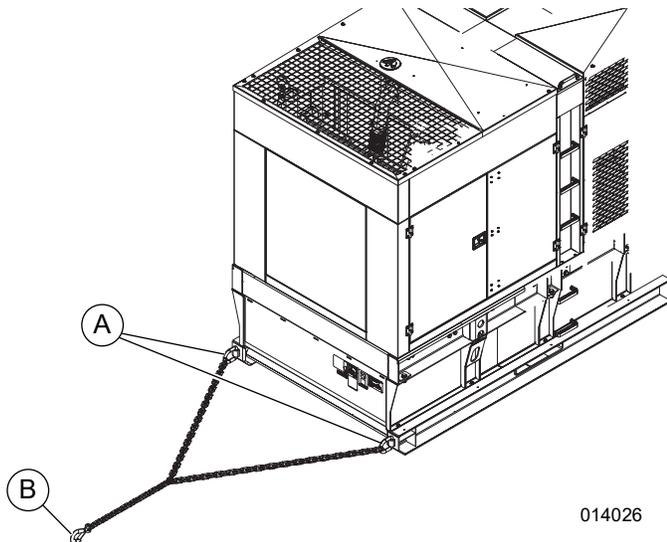

Figure 3-21. Dragging the Unit
1. See Figure 3-21. Attach a suitable chain to each D-Ring (A). D-Rings are located on the front and rear of the machine.
2. Attach the chains to a suitable tow vehicle (B).